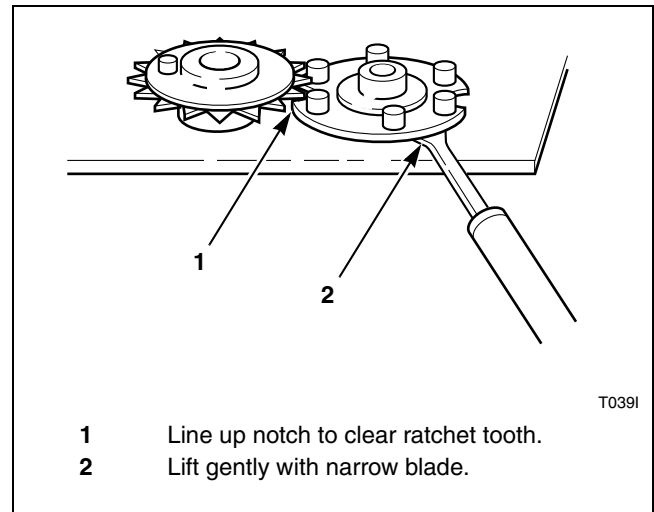

Figure 4
1. Rotate cam by hand until “V” notch lines up beneath the ratchet tooth. Refer to *Figure 4*.